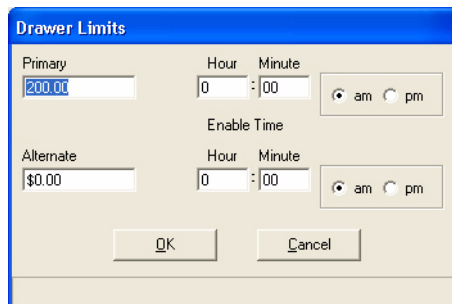

Figure 7-25 Drawer Limits Window
1. Select **ICAT Timeouts** from the Indoor Terminal window to access the ICAT Timeouts window. Timeouts programming allows you to set the timeout values for prompts which are displayed on the ICAT pin pad. See Figure 7-25.
1. Select **Limits** from the Indoor Terminal window to access the Drawer Limits window. Limits programming allows you to set up IPT drawer limits to enhance security for your site. This feature, when utilized, will prompt the cashier to make a safe drop when drawer limits are met. See Figure 7-25.